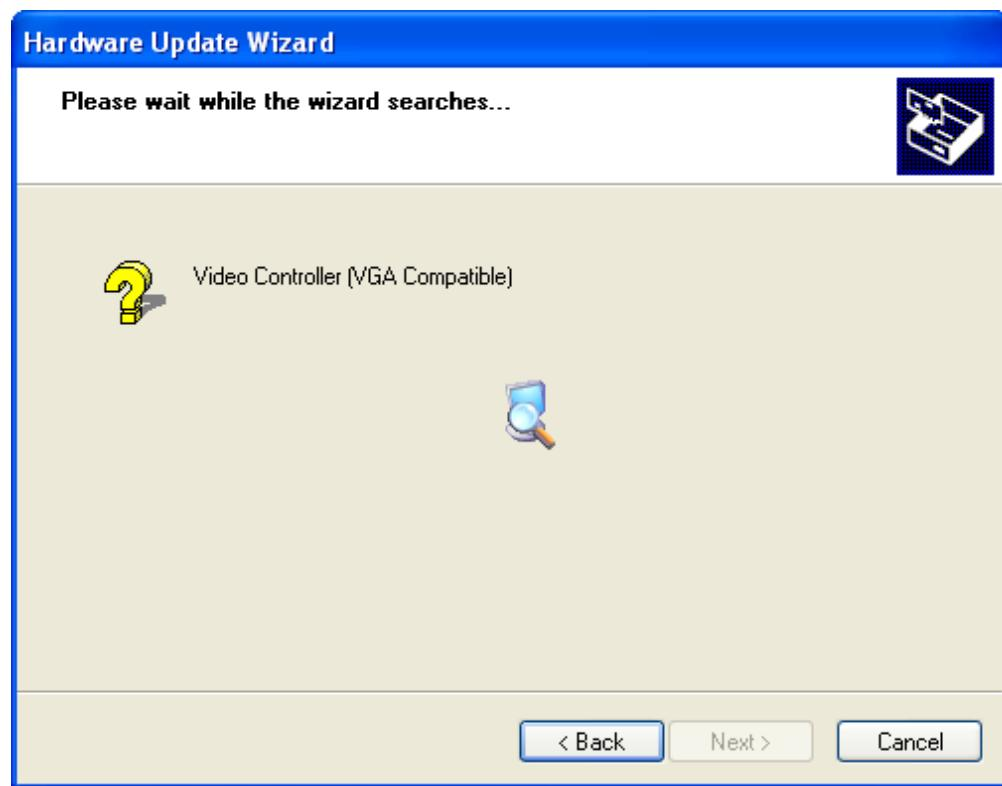

Figure 7-11: Wizard Search
Step 21: The Wizard then searches for the driver. See **Figure 7-11**.